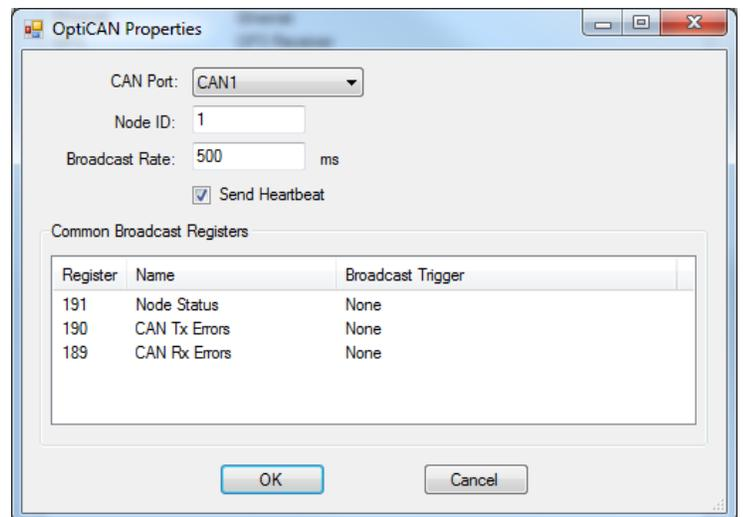

Figure 2-24 - OptiCAN Properties
6. Enter the setup information for the OptiCAN network. Refer to Figure 2-24.
- Node ID:** Network address (ID) for identify this equipment on the OptiCAN network.